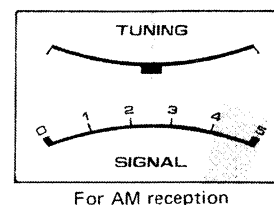

Fig. 15
2. Select desired station by rotating the TUNING knob. Tune for maximum deflection of the SIGNAL meter toward the right. Refer to Fig. 15.